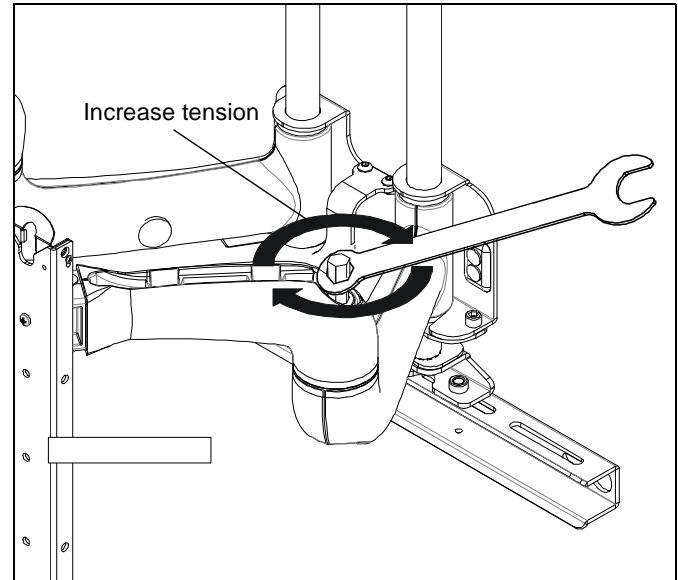
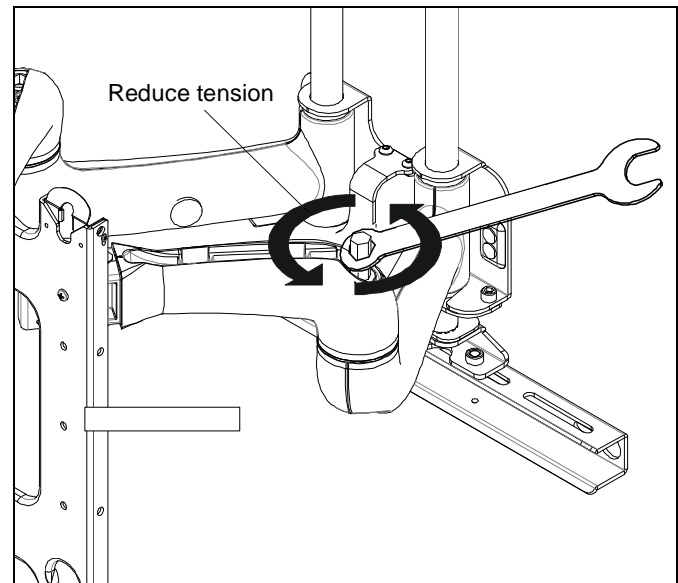

Figure 16
Figure 17
2. Use the adjustment wrench (E) provided with the mount, turn adjustment insert clockwise to increase swing arm tension (See Figure 16) or counterclockwise to reduce swing arm tension. (See Figure 17)